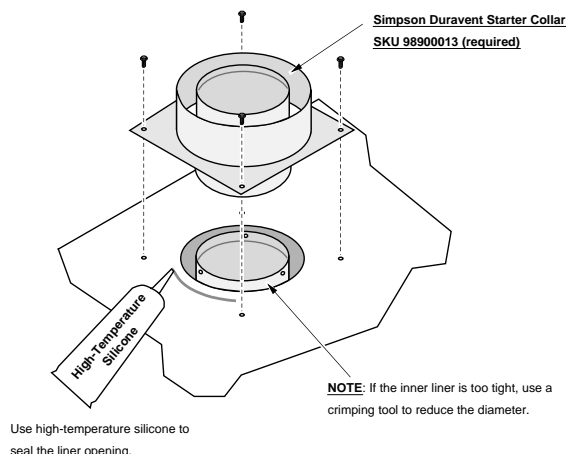

Figure 18
- Simpson Duravent chimney requires a starter collar. Attach the starter collar to the top of the fireplace with four sheet-metal screws (see Figure 18). If the inner pipe is too tight, use a crimping tool to adjust pipe diameter (see Figure 19). Seal the outer sections of pipe with high-temperature silicone.